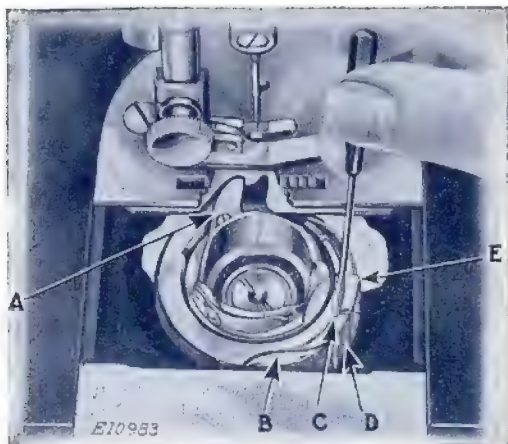

FIG. 30. BOBBIN CASE IN POSITION
(SEE FIG. 30)
The bobbin case may be easily removed from the machine without taking off the throat plate, although for the purpose of illustration the throat plate and feed dog are shown broken away in Fig. 30.
Remove the bobbin from the bobbin case. Turn the balance wheel over toward you until the end of the hook ring (E) is toward the front of the machine, as shown in Fig. 30. Insert the blade of the small tension screwdriver No. 120378, which is furnished with the machine, into the slot (C) between the ring and the edge of the spring, as shown in Fig. 30. With a downward pressure, turn the screwdriver one-half turn to the right so that the screwdriver will drop into the slot and unlock the spring. With the right hand, hold the balance wheel to prevent its turning, and, with the left, place the screwdriver against the edge of the slot in the ring and push it around in a direction opposite to the hook rotation until the circular cutout (B) is opposite the spring (D). The ring and bobbin case may then be lifted out.
in the position plate under the feed dog as shown in Fig. 30. Turn the bobbin case back and forth slightly to make sure that it is properly seated, then place the hook ring (E) in position with the cut-out (B) opposite the spring (D). Press the ring into place and turn it in the direction of hook rotation until the spring locks it in position. Then replace the bobbin.